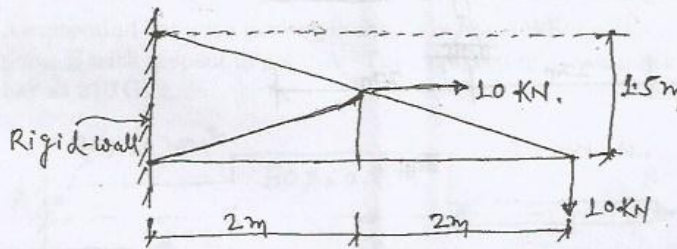

Fig. 5
- b) Analyze the plane-truss shown in Fig. 5 and appropriately tabulate the forces developed in it. Use method of sections. (10+3)